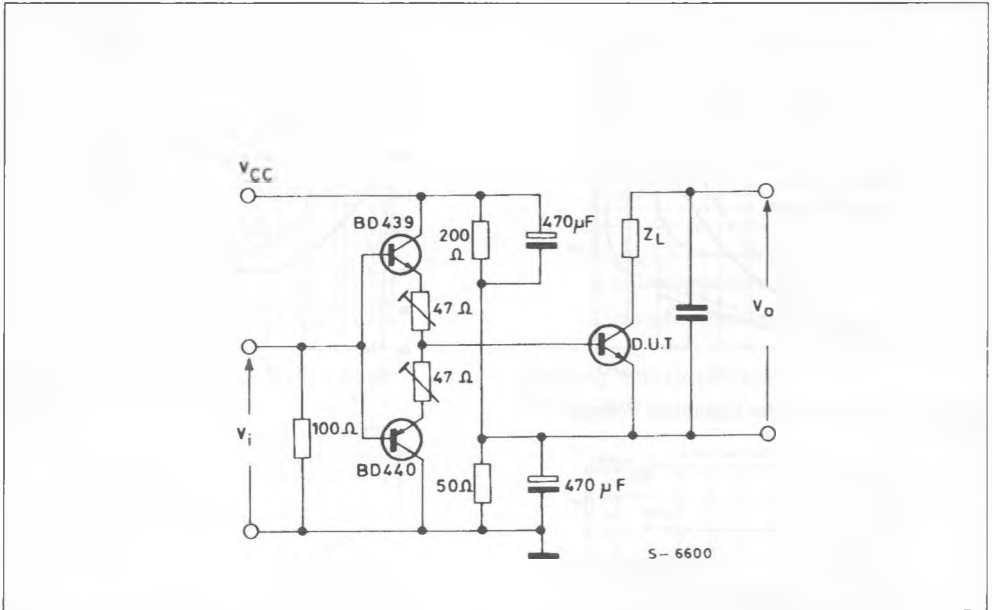

Figure 2 : Switching Times Test Circuit on Inductive Load with Ad without Antisaturation Network.
**INDUCTIVE SWITCHING TIMES** (see fig. 2)
Switching Time Inductive Load (see fig. 2).
Fall Times vs.  $L_B$  (see fig. 2).